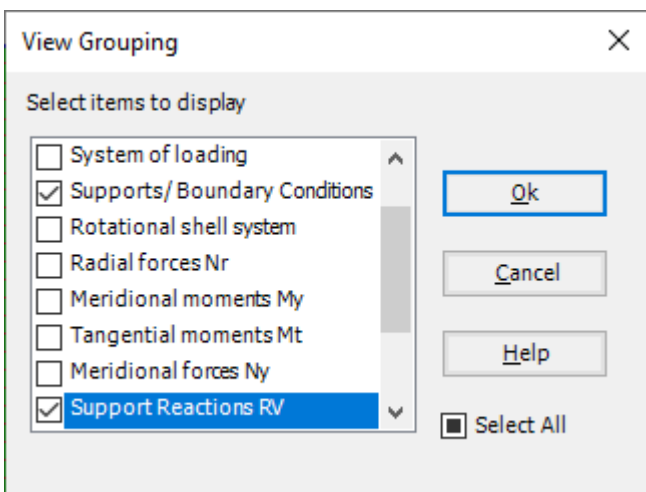

Figure 10.31 "View Grouping" check group box
- From "Options" menu in the "Graphic" tab, choose "View Grouping" command. The "View Grouping" check group box in Figure 10.31 appears